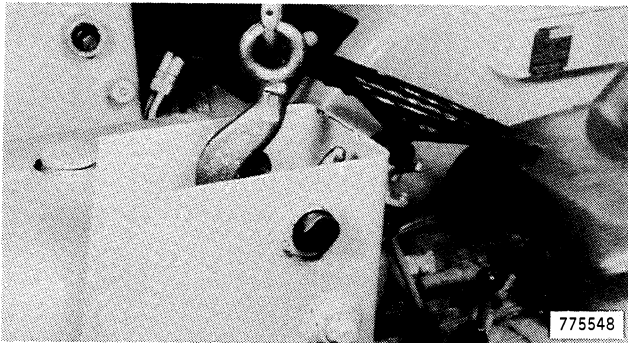

Figure 23
28. Connect a chain hoist to the loader upright, Figure 23.